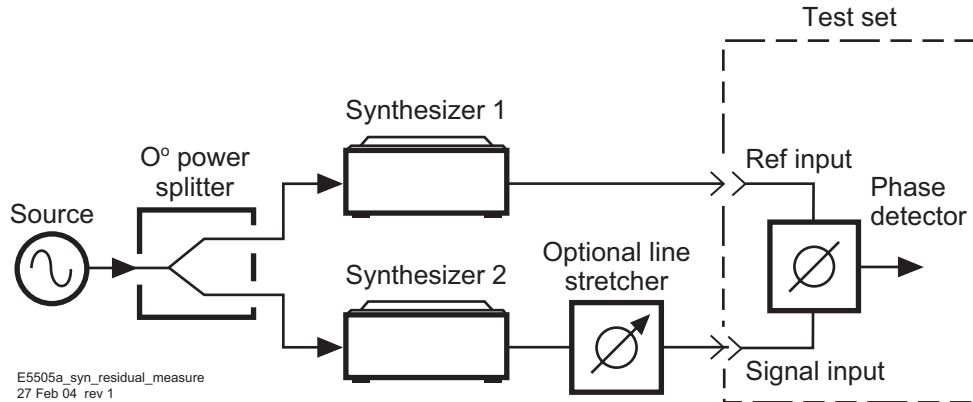

Figure 156 Synthesized residual measurement using beatnote cal
- 1 Connect circuit as per Figure 156 and tighten all connections.